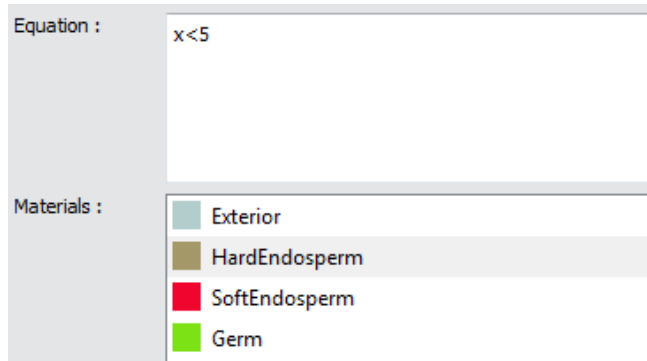

Figure 13.27: Equation Mode
- *Equation*: The equation mode lets you select any element of a given material based on a given equation (Figure 13.27). The vertex components are accessed through X, Y, and Z variables. A triangle is selected if all three vertex positions match the equation condition. For example, the